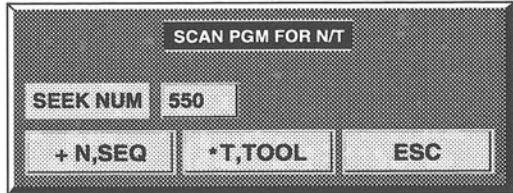

Figure 9-2
- 3 FND SEQ** This command searches the active part program for a specific sequence number or tool change command. The **FND SEQ** command displays a window on the screen as shown in Figure 9-2.